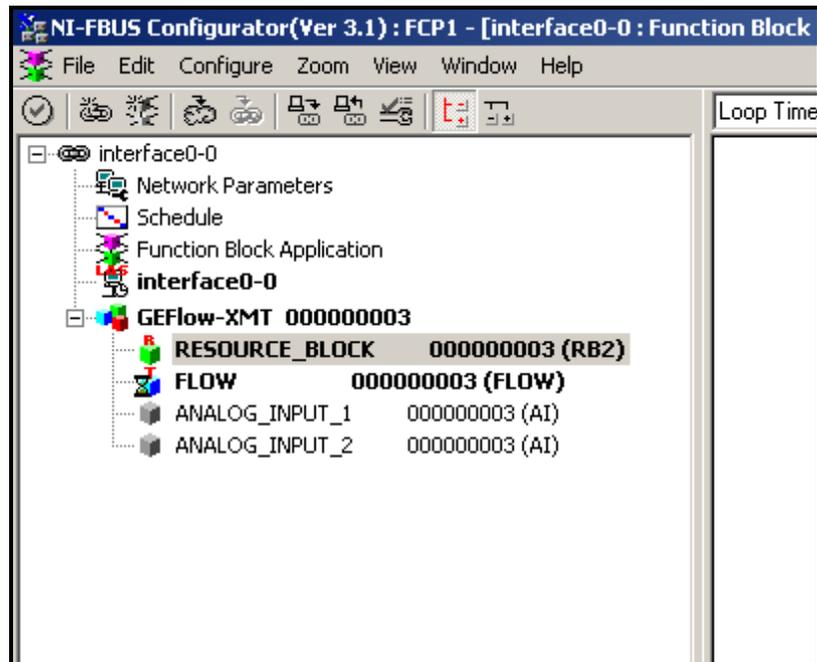

Figure 40: Configuration Utility Setup Example
Figure 40 shows the Configuration Utility with a flowmeter on the network (GE Flow-XMT).
1. Double click on the AI block for which you wish to set the units (ANALOG_INPUT_1 or ANALOG_INPUT_2 in the tree under GEFlow-XMT; see Figure 40 on page 130).
1. Double click on the FLOW transducer block (in the tree under GEFLOW-XMT; see Figure 40 on page 130).